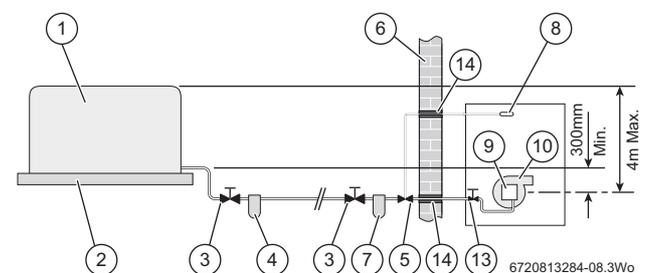

Fig. 5 Single pipe feed
**Key to Oil supply illustrations, figures 5, 6 & 7**